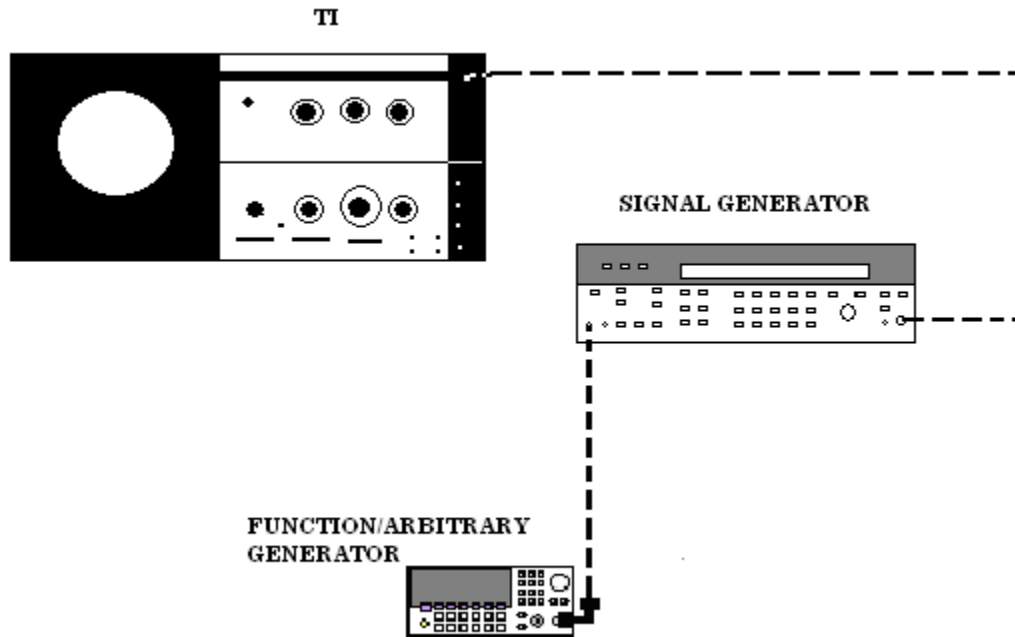

Figure 5. Scan time accuracy - equipment setup.
- (1) Connect equipment as shown in figure 5.
- (4) Adjust signal generator frequency and amplitude controls until signal display is aligned with far left graticule line on display. Record signal generator frequency.
- (5) Increase signal generator frequency 80 MHz above frequency recorded in (4) above. Signal display will move within  $\pm 0.24$  division of the eighth graticule line to the right.
- (6) Set **PER DIVISION** switch to **3 kHz** and **SCAN WIDTH PER DIVISION** switch to **.05 MHz**.
- (7) Set IF plug-in **SCAN TIME PER DIVISION** switch to **10 ms**.
- (8) Connect equipment as shown in figure 5.
- (9) Set signal generator controls as necessary for external modulation.
- (10) Adjust signal generator output to 60 MHz and adjust function/arbitrary generator output to 50 kHz.
- (11) Adjust signal generator and function/arbitrary generator amplitude controls until a signal pip is displayed every 50 kHz across the display.
- (12) Adjust **FREQUENCY** and **FREQUENCY FINE TUNE** controls until a 50 kHz signal pip is aligned with far left graticule line on display. A 50 kHz signal pip will appear within  $\pm .8$  division of eighth graticule line to right.